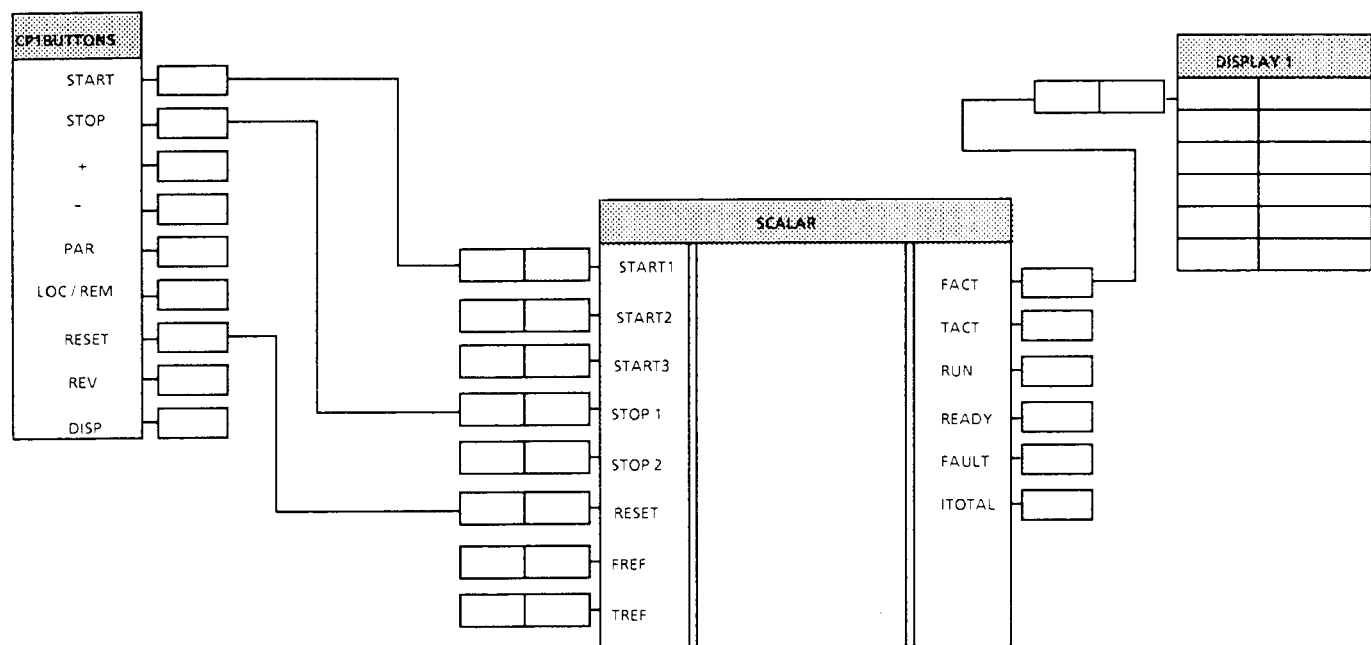

Figure 9-2. Typical Connection Diagram
When connecting blocks, the logical (L) and numerical (N) pins CANNOT be connected. The output (OUT) address of the block to be connected must be set to the input pin of another block as shown in Figure 9-2. The SCALAR block is used for final setting of the operating instructions for the inverter unit, and for feedback of the inverter's operating state.
Remember: The inputs of each block (With the exception of Input and Control Panel Blocks) must be connected to the output of another block (Figure 9-2). The desired block output parameter value is set to the block input parameter address. The parameters related to each block cannot be connected, as they are internal values of the block.